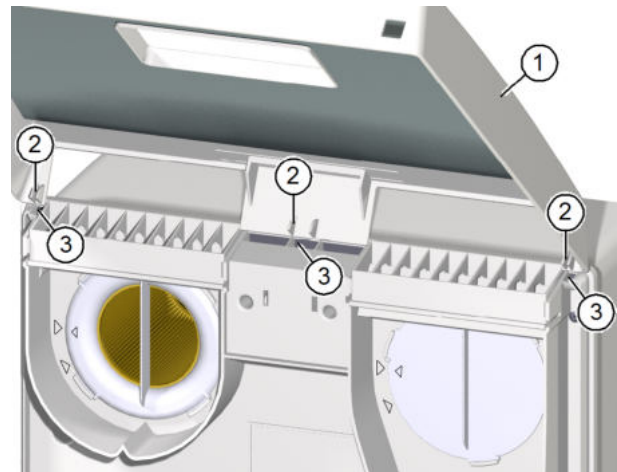

Fig. 20: Attach cover to ventilation unit
- ▶ Hold the cover (item 1 in Fig. 20) of the ventilation unit with both hands and tilt the top edge of the cover towards the ventilation unit.
- ▶ Insert the tabs (item 2 in Fig. 20) of the cover into the openings (item 3 in Fig. 20) on the top of the ventilation unit.